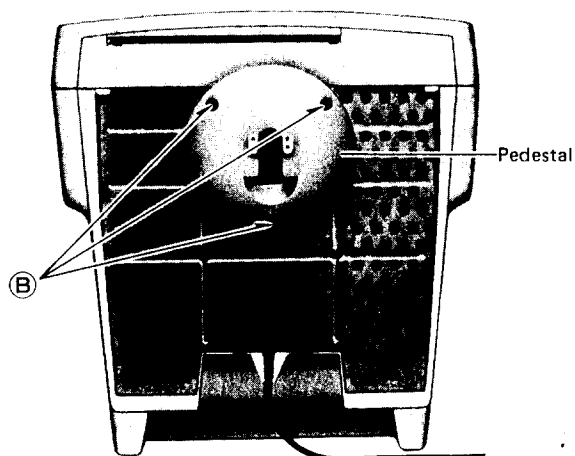

Figure 17
- Remove 3 screws (B) from the pedestal. (Figure 17)